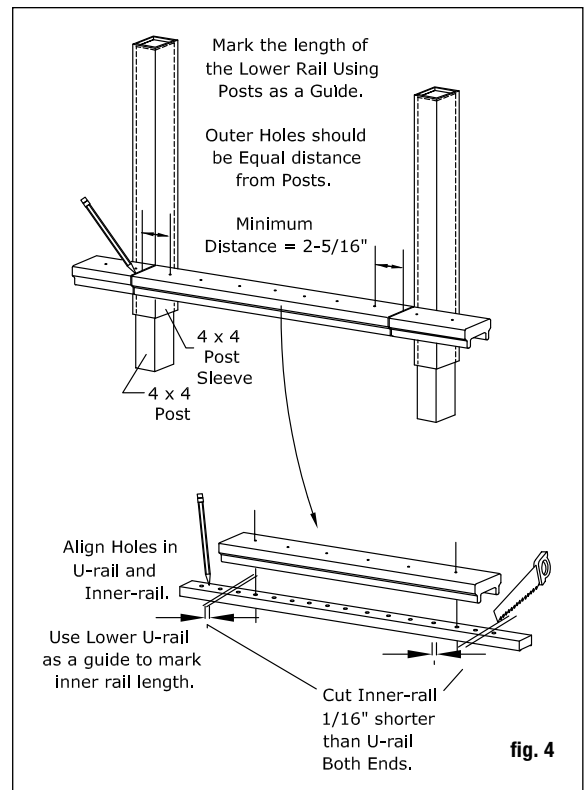

fig. 4
Step 7 *Note: To ensure the balusters are installed plumb, the holes between the rail sections must all be aligned. Tip: Use a gauge pin or a 3/32" drill bit to ensure the holes are aligned.* Using the trimmed lower rail as a guide, set one inner rail on the trimmed bottom rail and align the pre-drilled holes. Mark the cut lines on the inner rail with a pencil. *Note: To allow for the thickness of the brackets, the inner rails should be 1/8" shorter than the outer rails with all holes equally spaced.* Remove an additional 1/16" from the pencil mark on each end and trim the inner rail to length. Repeat for the second inner rail (fig. 4).